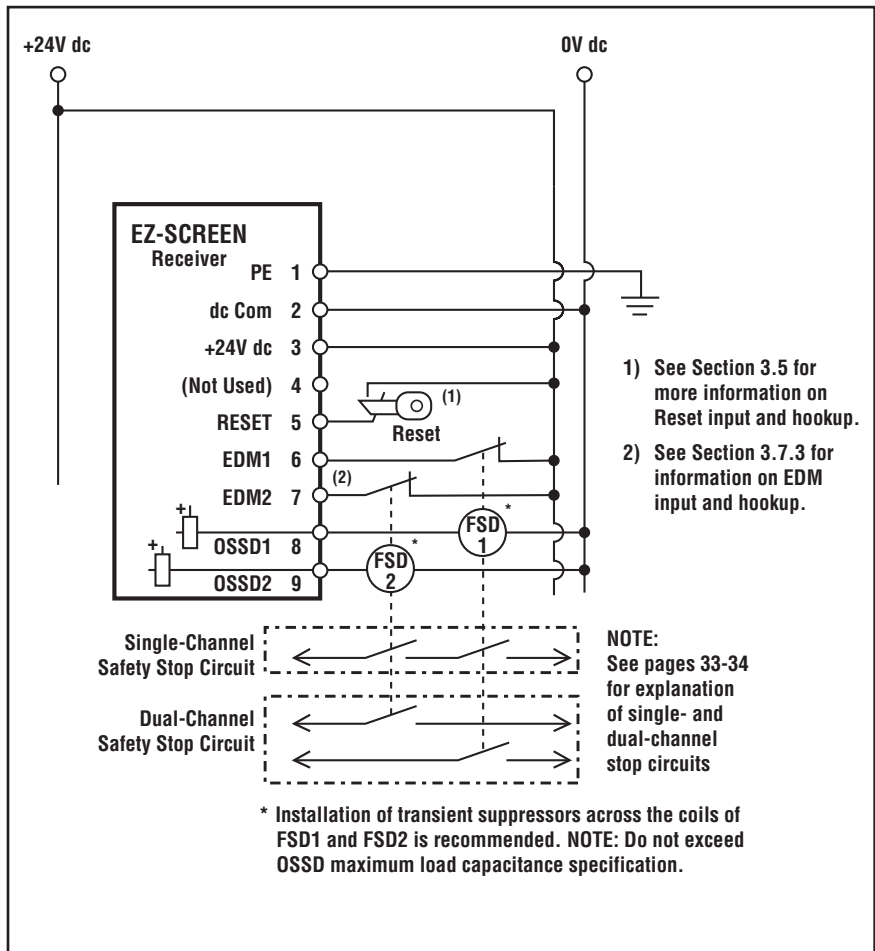

Figure 3-16. EZ-SCREEN receiver generic hookup – FSD (2-channel EDM, key reset)
Final Switching Devices (FSDs) typically accomplish this when the OSSDs go to an OFF state. See Figure 3-16.
A common method of satisfying these requirements is the use of 2-channel control with monitoring, where a normally closed, forced-guided contact of each MPCE is wired as described in the section at right and as shown in Figures 3-16, 3-17 and 3-18.
Each of the two Machine Primary Control Elements (MPCE1 and MPCE2) must be capable of immediately stopping the dangerous machine motion, irrespective of the state of the other. These two channels of machine control need not be identical, but the stop time performance of the machine (T_s , used to calculate the separation distance, see Section 3.3.1) must take into account the slower of the two channels. Some machines offer only one Primary Control Element. For such machines, it is necessary to duplicate the circuit of the single MPCE to add a second. Refer to Figures 3-16 and 3-17 or consult the machine manufacturer for additional information.
External Device Monitoring: It is strongly recommended that one normally closed, forced-guided monitoring contact of each MPCE be connected to EDM inputs (see Figures 3-16 and 3-17). If this is done, proper operation of the MPCEs will be verified. MPCE monitoring contacts is one method of maintaining control reliability.
- **Two-channel monitoring** is a separate connection of closed monitor contacts that are forced-guided (captive contact) from each device controlled by the EZ-SCREEN Grid. The monitoring contacts should always change state (both open or both closed) within 200 milliseconds of the corresponding OSSD state change (turning on or off) or a lockout will occur (see Diagnostics, Section 5.1). Refer to Figures 3-16 or 3-17 for 2-channel EDM hookup. Connect the monitor contacts as shown between +24V dc and EDM1 (terminal 6) and between +24V dc and EDM2 (terminal 7). Set the configuration DIP switches to 2, per Section 4.1.